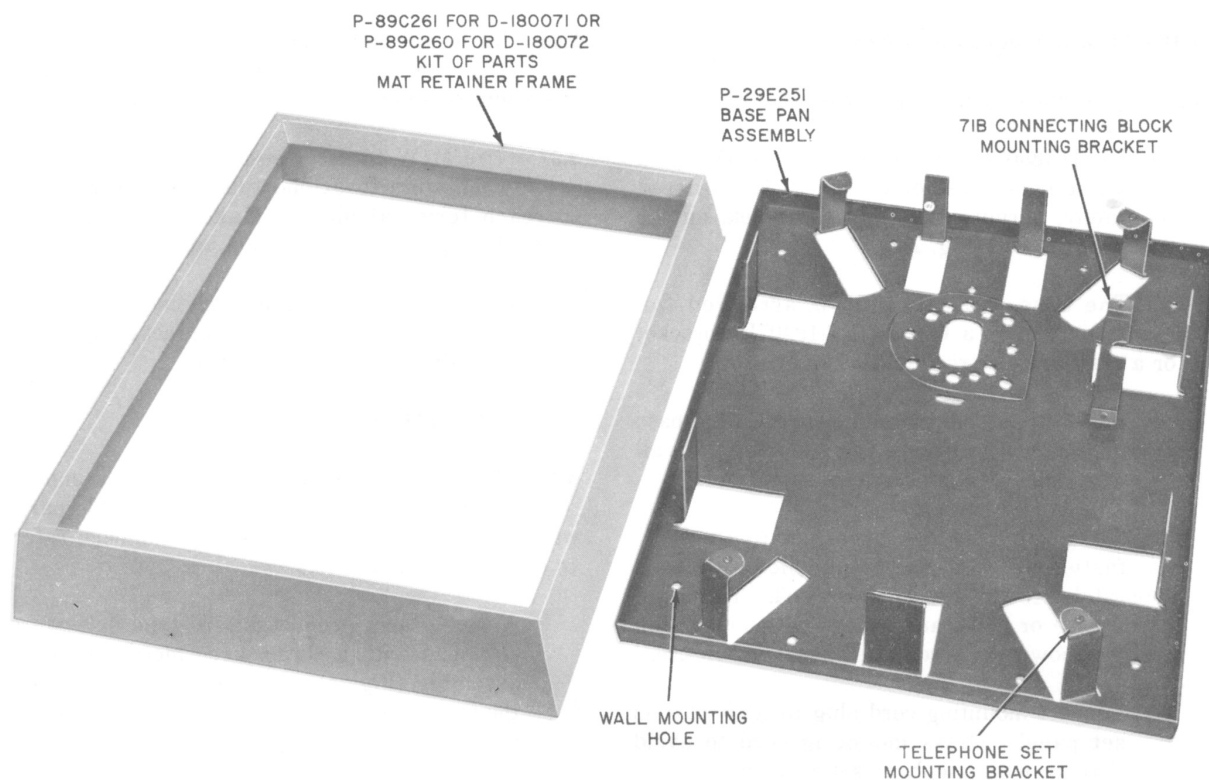

Fig. 2—D-180071 or D-180072 Kit of Parts For Surface Mounting
- (1) The D-180071 (light gray frame) or D-180072 (light beige frame) Kit of Parts, ordered separately, permits mounting these sets on the surface of a wall (Fig. 2).
- (2) The base pan assembly is arranged for mounting on a 63A or KS-19407L1 bracket or a standard electrical outlet box.